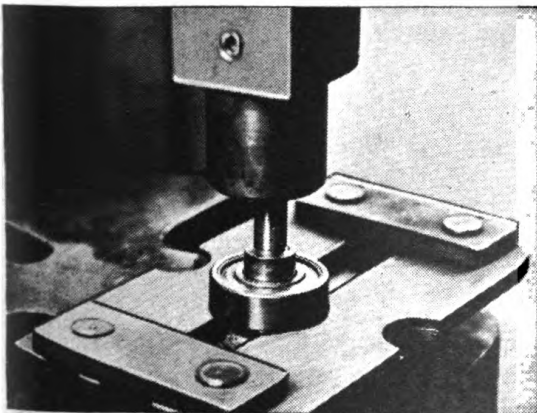

Fig. 63. Removing Rotor Shaft Bearing
1. Removing bearings: Use the gear and ball bearing puller No. 3 Fig. 37 as shown in Fig. 63. Place the bearing driver No. 18 Fig. 37 in the ram of the arbor press as in Fig. 63 and press the shaft out of the bearing.